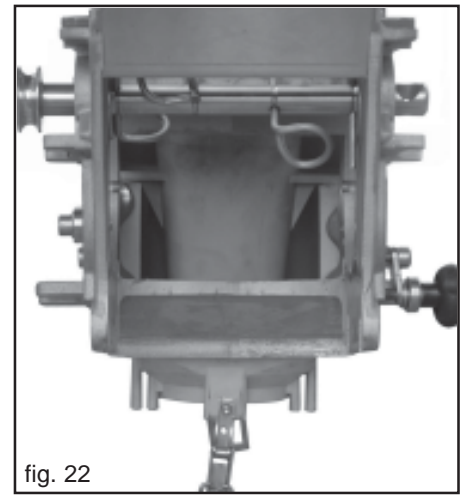

fig. 22
- 1) Doser with seed hatch and seeding wheel disassembled (Fig. 22).